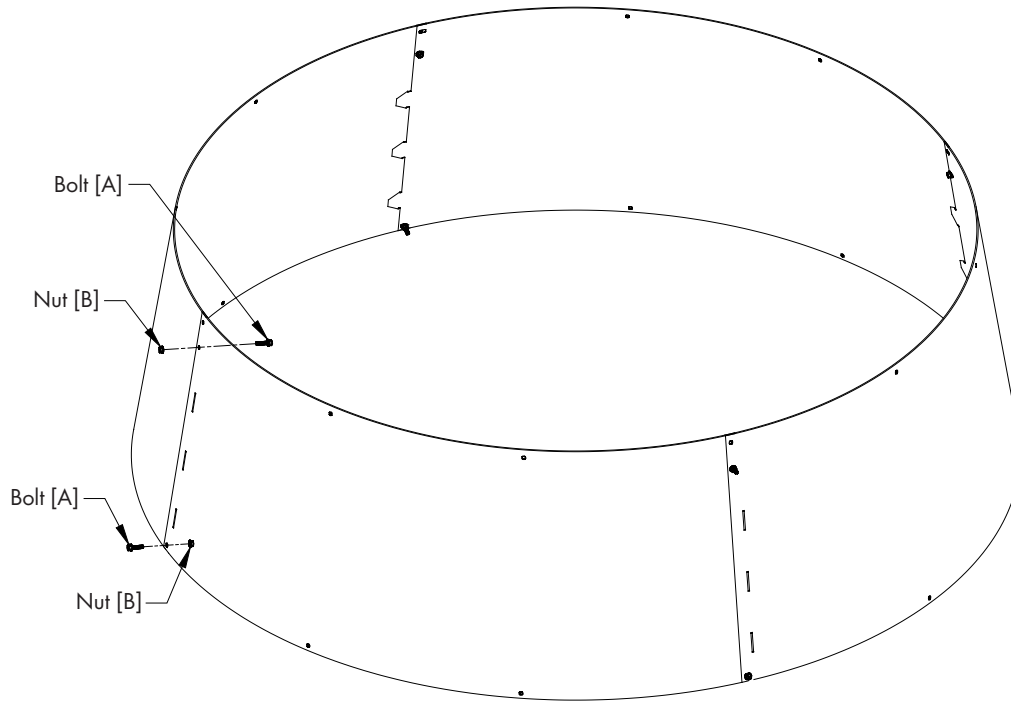

Figure 8
Stand cone sections on end and curl ends around to form cone so that the nuts are outside and tabs on inside. Insert remaining tabs into slots so tabs are inside cone and fasten final joint using (1) Bolt [A] and Nut [B], with nut on inside of cone. At the inner pair of holes fasten using (1) Bolt [A] and Nut [B] with bolt head on inside of cone. See Figure 8. Leave all bolts and nuts loose at this time.